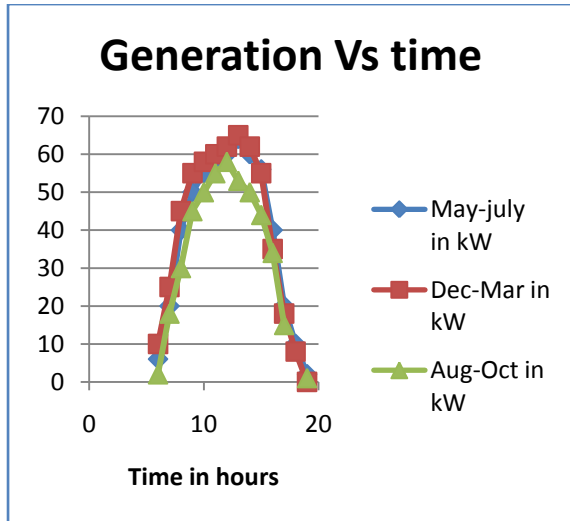

Fig 2. Average Hourly Power Generation Curve in Different Seasons
The maximum values recorded on both DC and AC side. The recorded maximum power on AC side is 65 kW. There are six inverters in the GNDEC; average generation on output (AC) side is 64 kW. The recorded maximum active power generation is 65kW; its overall average generation is 357 kWh per day. Average active power generation for different seasons shown in fig 2.